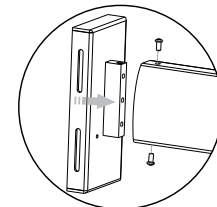

figure 4
4. Attach the lower Main Arm to the Lower Bracket (figure 4).